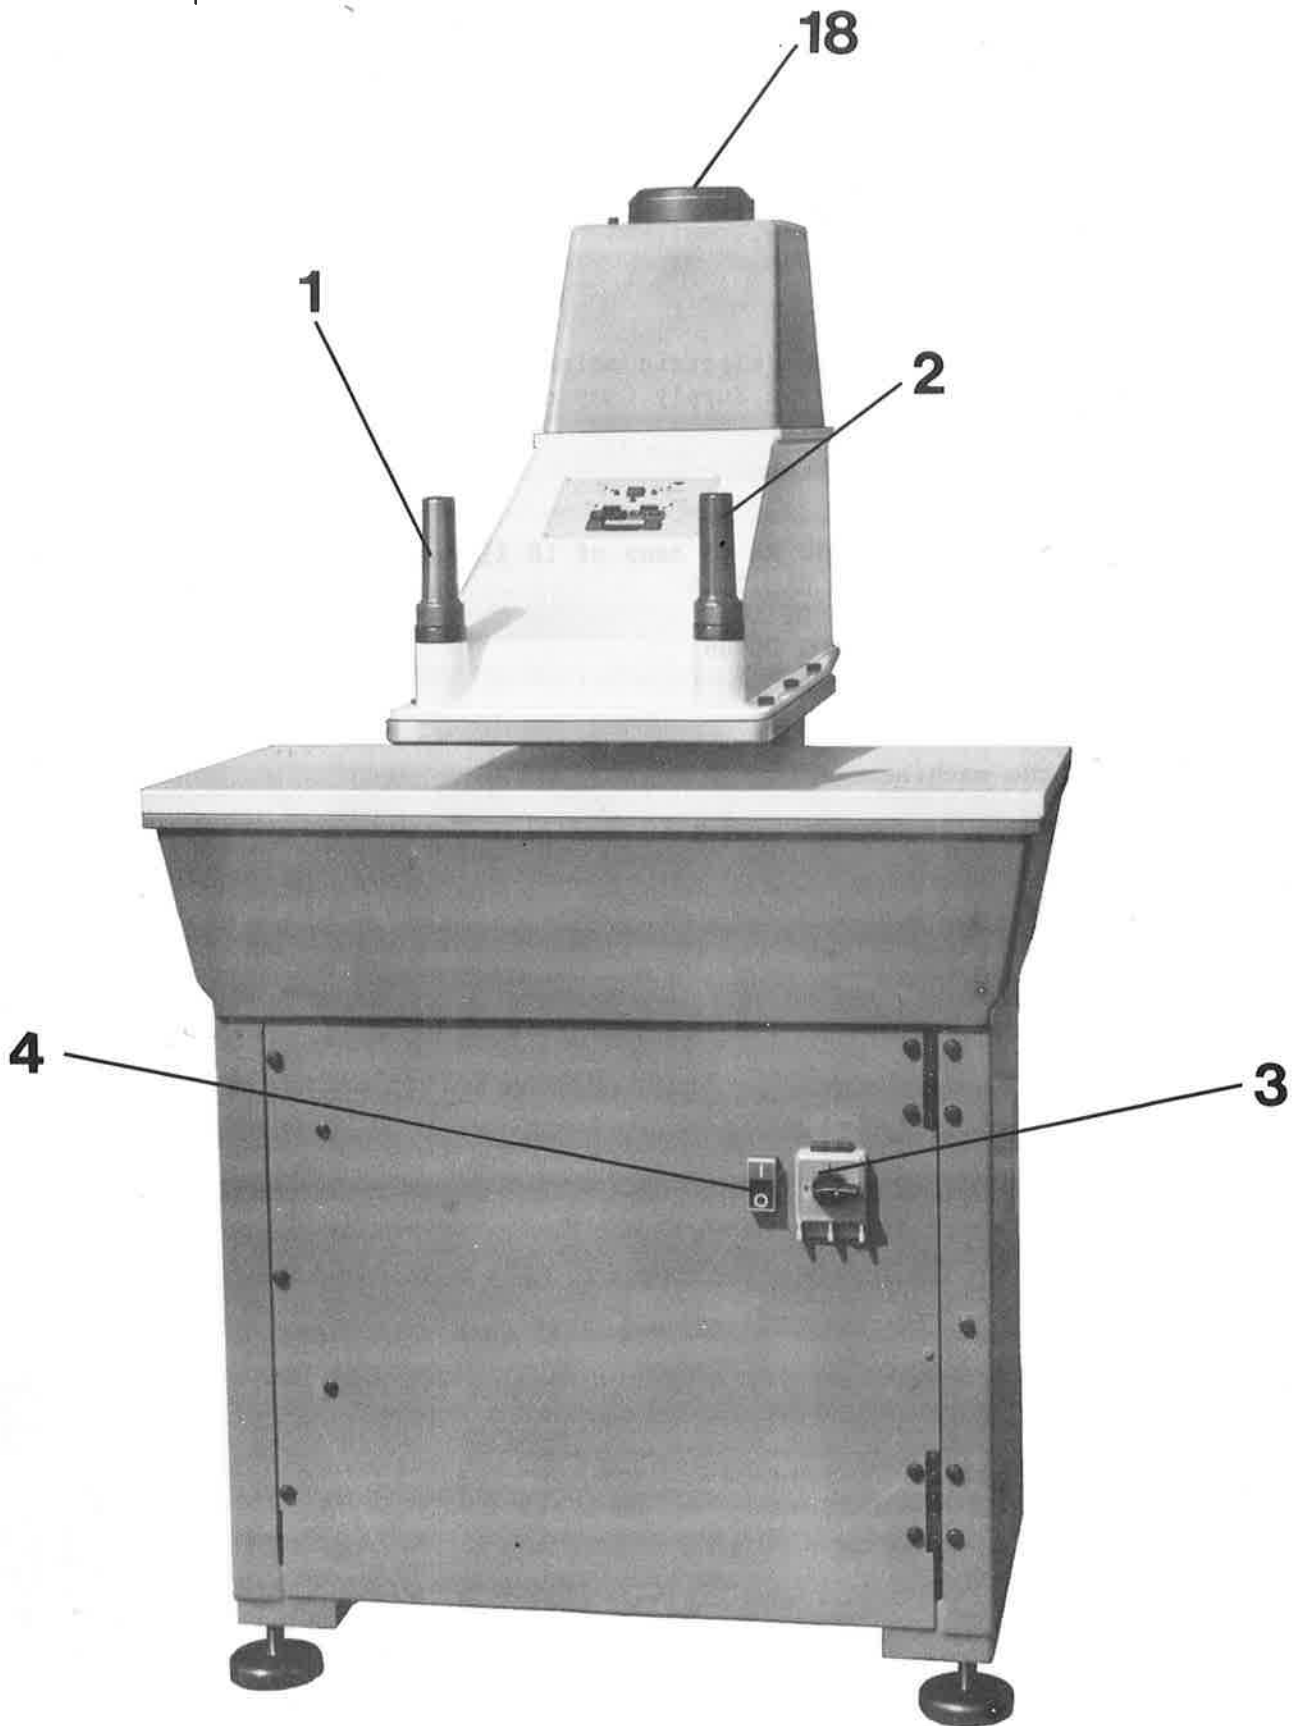

Fig.2
- Turn electric mains switch 3 (Fig. 2) to operating position '1'. Flashing of single segments of the 7-segment-display is insignificant.